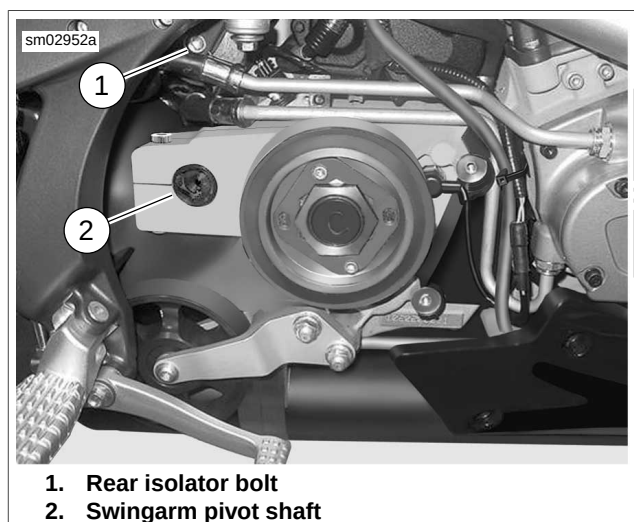

Figure 3-14. Rear Isolator Bolt and Swingarm Pivot Shaft
35. See Figure 3-14. Remove:
- a. Rear isolator bolt (1).
- b. Swingarm pivot shaft (2).